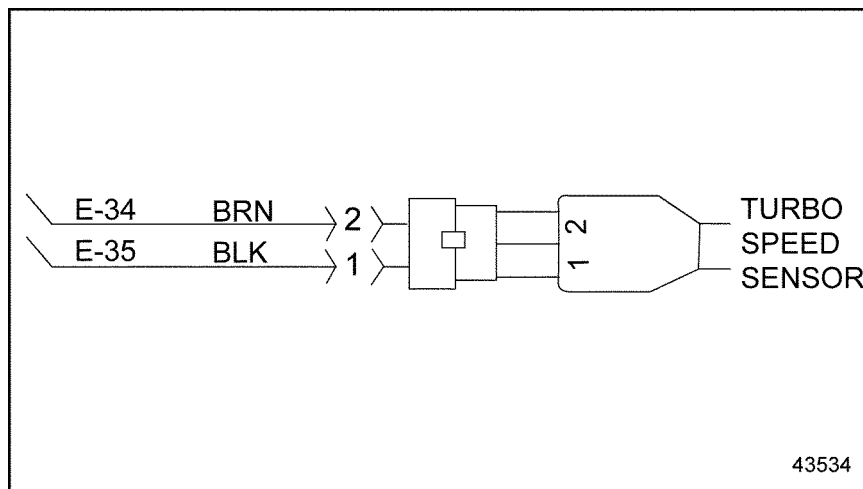

Figure 60-2 Turbo Speed Sensor Wiring
2. Measure resistance between cavity 2 and battery ground. See Figure 60-2.